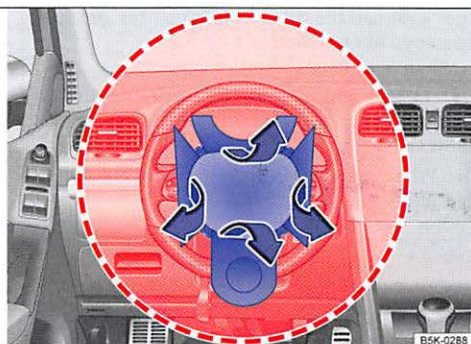
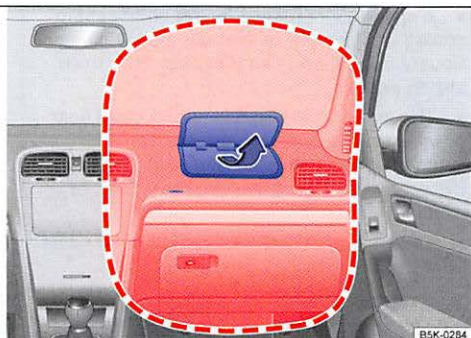

Fig. 59 Location and deployment zone of the driver front airbag.
Fig. 60 Location and deployment zone of the passenger front airbag.
The vehicle is equipped with an Advanced Airbag System in compliance with the United States Federal Motor Vehicle Safety Standard (FMVSS) 208 or the Canada Motor Vehicle Safety Standard (CMVSS) 208 applicable at the time your vehicle was manufactured. The airbag for the driver is in the steering wheel hub ⇒ fig. 59 and the airbag for the front passenger is in the instrument panel ⇒ fig. 60. The general location of the airbags is marked "AIRBAG".
The areas marked in red (dotted lines) ⇒ fig. 59 and ⇒ fig. 60 indicate the airbag deployment zone. Never place or attach accessories or other objects (such as cup holders, telephone brackets, note pads, navigation systems, large, heavy or bulky objects) on the doors, on the windshield, over or near the area marked in red (dotted lines).
- Never place accessories or other objects (such as cup holders, telephone brackets, notepads, navigation systems, or things that are large, heavy, or bulky) on the doors or attach them to the doors; never place them over or near the area marked "AIRBAG" on the steering wheel, instrument panel, or seat backrests, or between those areas and someone in the vehicle $\Rightarrow$ fig. 59, and $\Rightarrow$ fig. 60. Such objects could cause serious injury in a collision, especially if an airbag inflates.